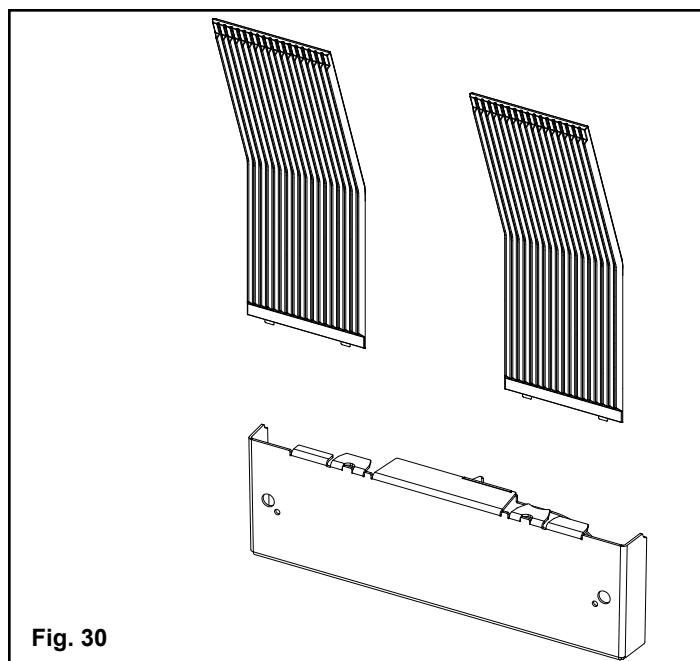
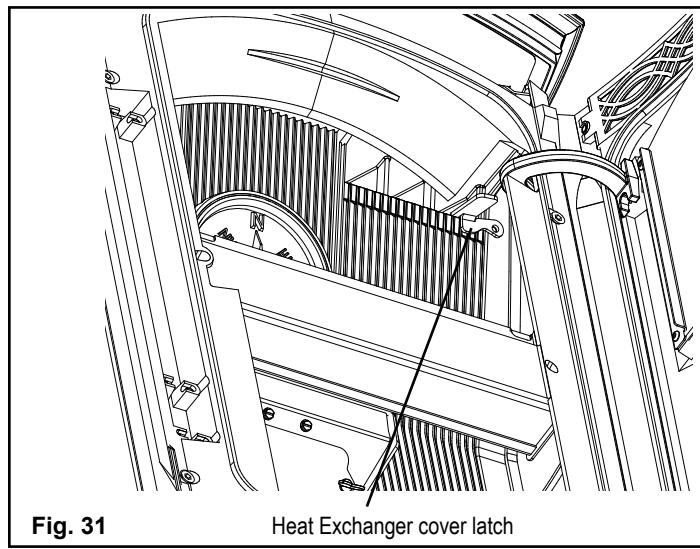
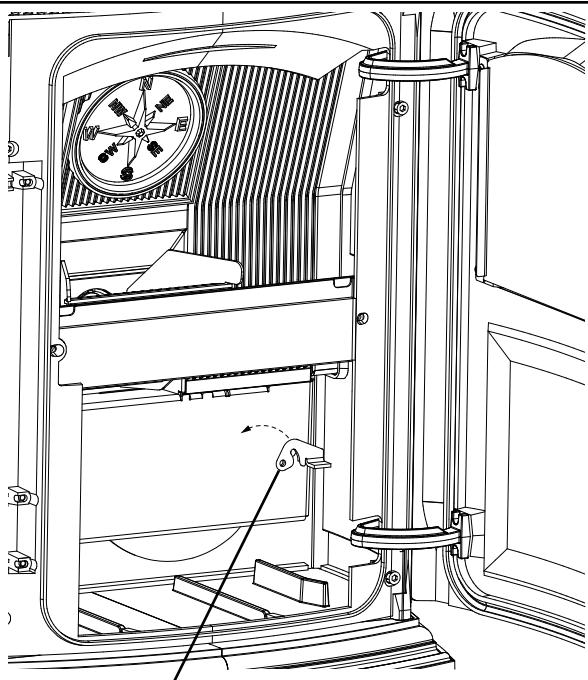

Fig. 30
Fig. 31
Fig. 32
1. Remove the two heat exchanger covers. Fig. 30. These covers are made of cast iron and are held into place with a swing latch in the upper right and left corners. Fig 31. Swing the latch upward far enough to release the top edge of the heat exchanger cover. Tilt the cover forward approximately 2" and lift it upward about 1" to release the bottom edge. The cover can now be taken completely out through the upper door opening. Repeat the process with the second heat exchanger cover.
2. Remove the combustion intake assembly. Fig. 30. The combustion intake assembly is held into place with two swing latches Fig. 32. Swing each latch until it hangs down away from the retainer stud. Now the assembly can be taken out by tilting the right side outward first through the lower door opening.